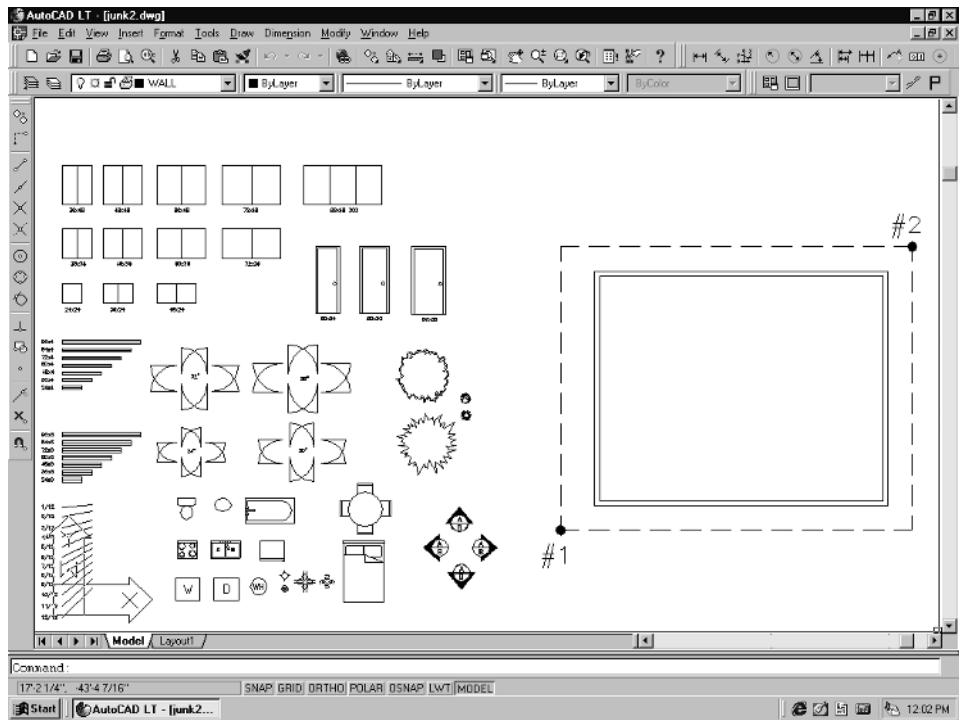
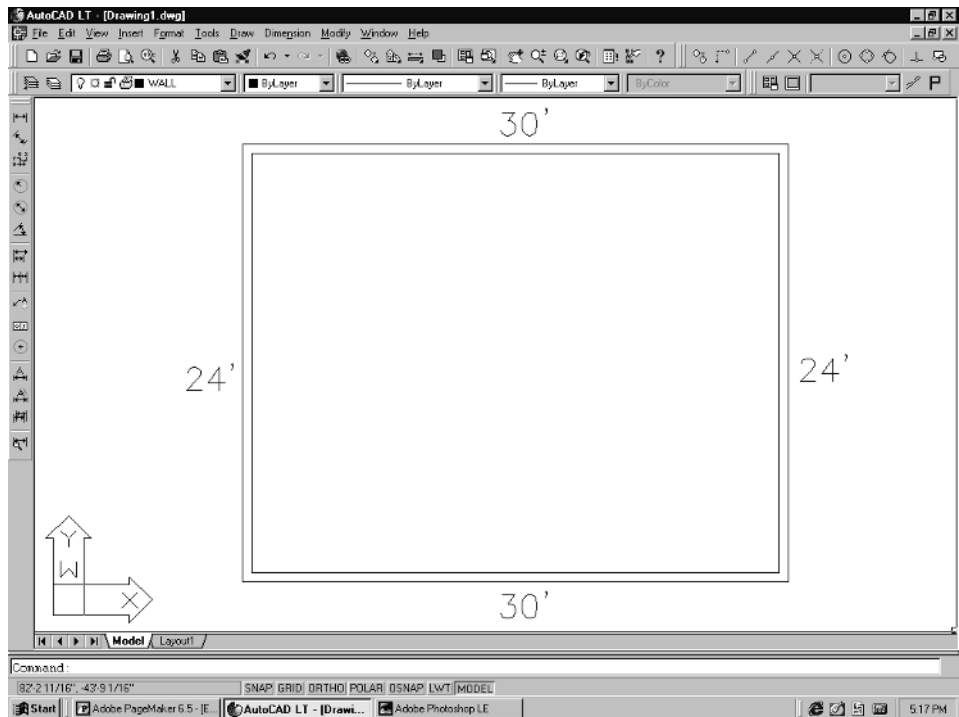

Figure 2-7
Figure 2-8
prompt. Then, select point #2 at the *Specify opposite corner* prompt. See Figure 2-7. The drawing will zoom in as in Figure 2-8.
1. Assuming you have the basic exterior walls drawn as in Figure 2-8, pick **Double Line** from the Draw pull-down menu.